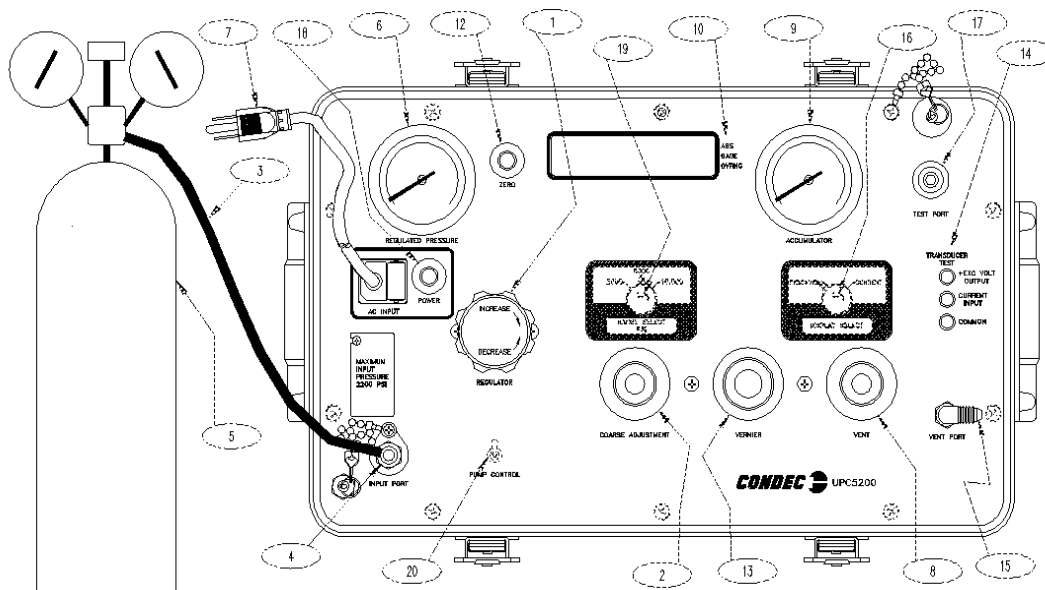

Figure 2-1. Initial Setup Procedure
To prepare for actual calibration usage, see Figure 2-1 below and proceed as follows:
NOTE: Connector pin designations are for reference only, and are no longer a connector on newer units. See Figure 2-1 on page 5 (14).